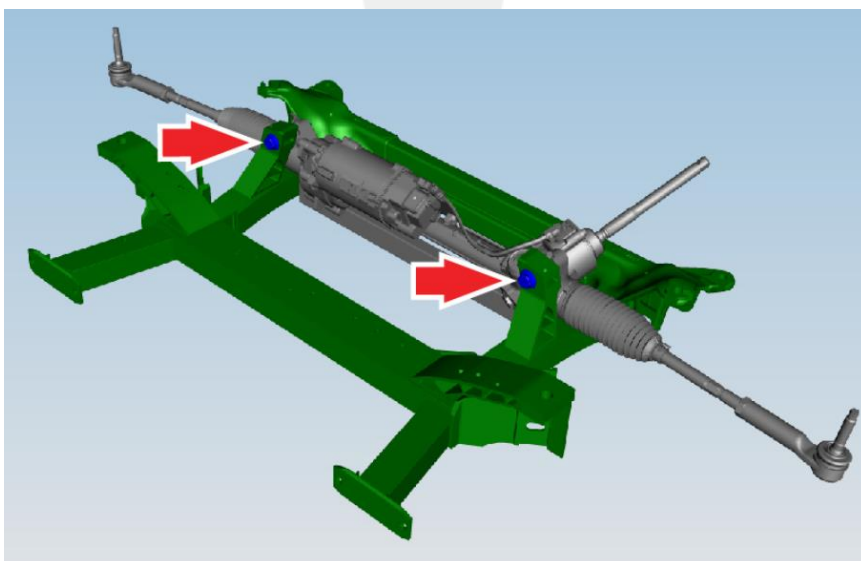

Figure 21
7. Remove the LH and RH steering rack mounting bolts that attach the steering rack to the front subframe (Figure 21) (torque 175 Nm).